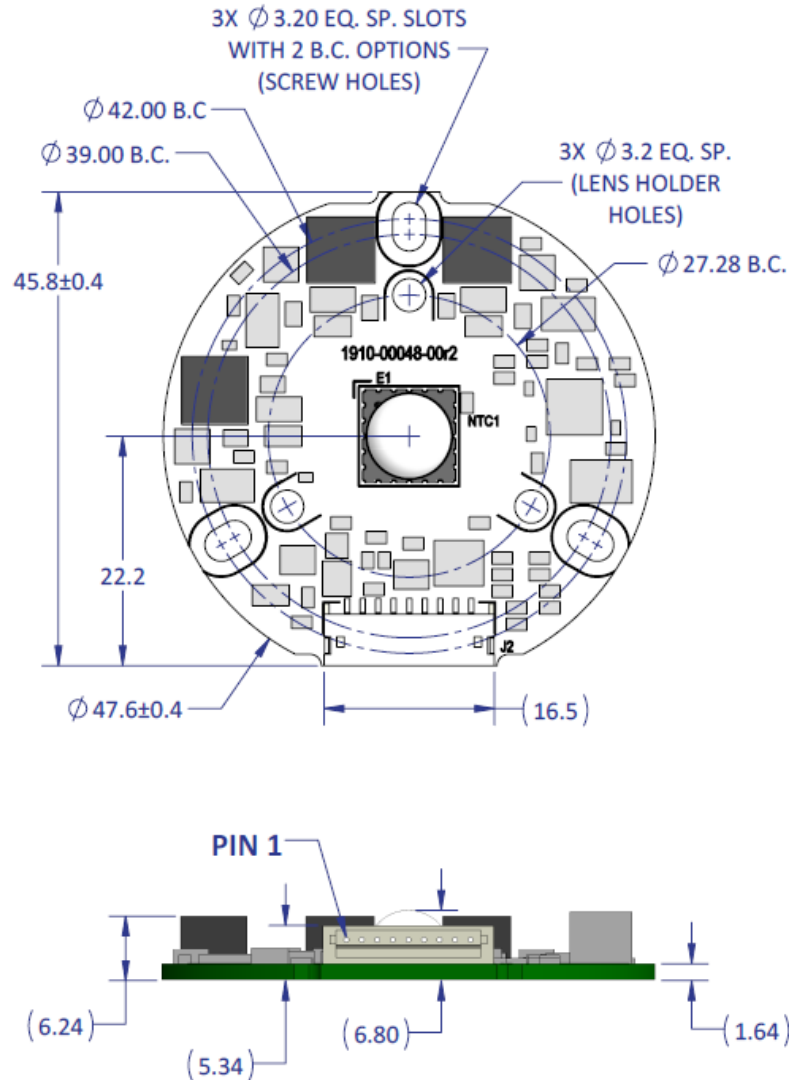

Figure 12: Mechanical dimensions of LuxiTune light engine – without secondary lens
- The temperature measurement point is labeled NTC1 in Fig 12 and is located next to the LED emitter. Junction temperature T_j is derived from this measurement.
The standard LuxiTune light engine is sold with supported secondary optics optimized for color mixing and efficiency. The following mechanical dimensions are provided as a guidance for luminaire design. The 3-legged lens holder sits in the 3 holes shown in Fig 12.
The board thermal reference point referred to as NTC1 is marked in Fig. 12 and is used to control the performance of the light engine. In the case of insufficient cooling, the light engine will be protected by the driver. The driver continuously monitors the temperature at NTC1 and will reduce the power in steps of 10% when the temperature rises above 85°C. At 105°C the light engine will be turned off.